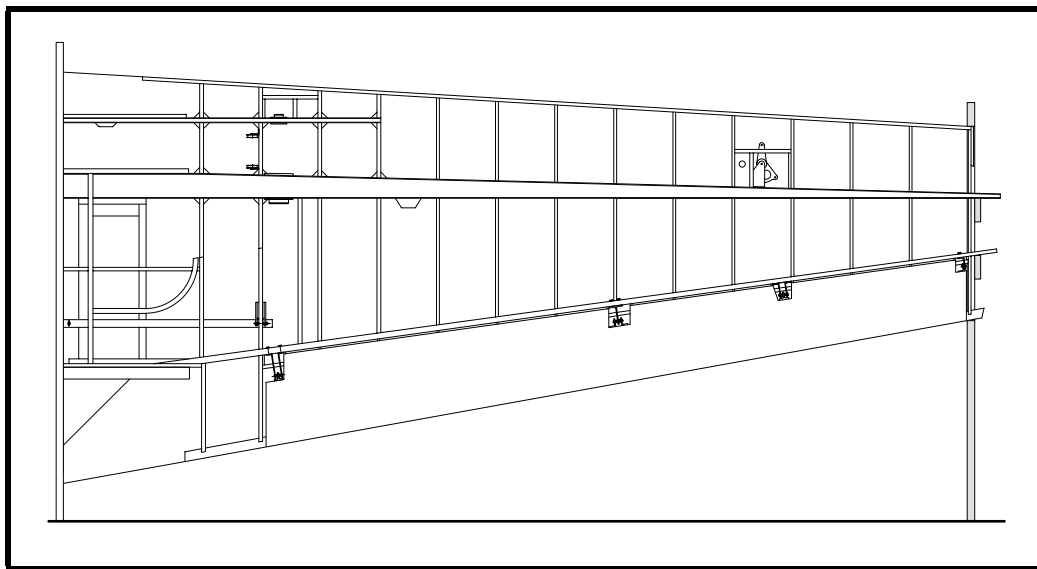

Figure 27
- ❑ For wheel well door installation—fit and install the lower wheel well ring. See Figure 27. At the aft end of the wheel well, install a 20x10 spruce post between the upper ring and the lower ring. This will support the lower ring while it is being sanded. Between the inboard seat support and the 20x20 stringer on the bottom of the airplane, install a 20x20 spruce post to make the corner with the wheel well skin. The aft wheel well skin will be glued to the aft face of this post, then the inboard skin will be glued in place.